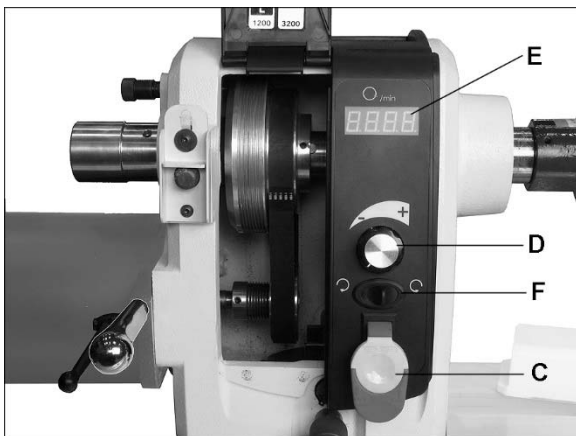

Figure 8-2: operating controls
Auto braking: When main switch (C, Figure 8-2) is turned off, the motor will brake to a stop within seconds. (In normal mode, machine will coast to a stop.) Also, if a chisel catches in the workpiece auto braking will activate.
1. Rotate speed dial (D, Figure 8-2) until desired speed shows in readout.